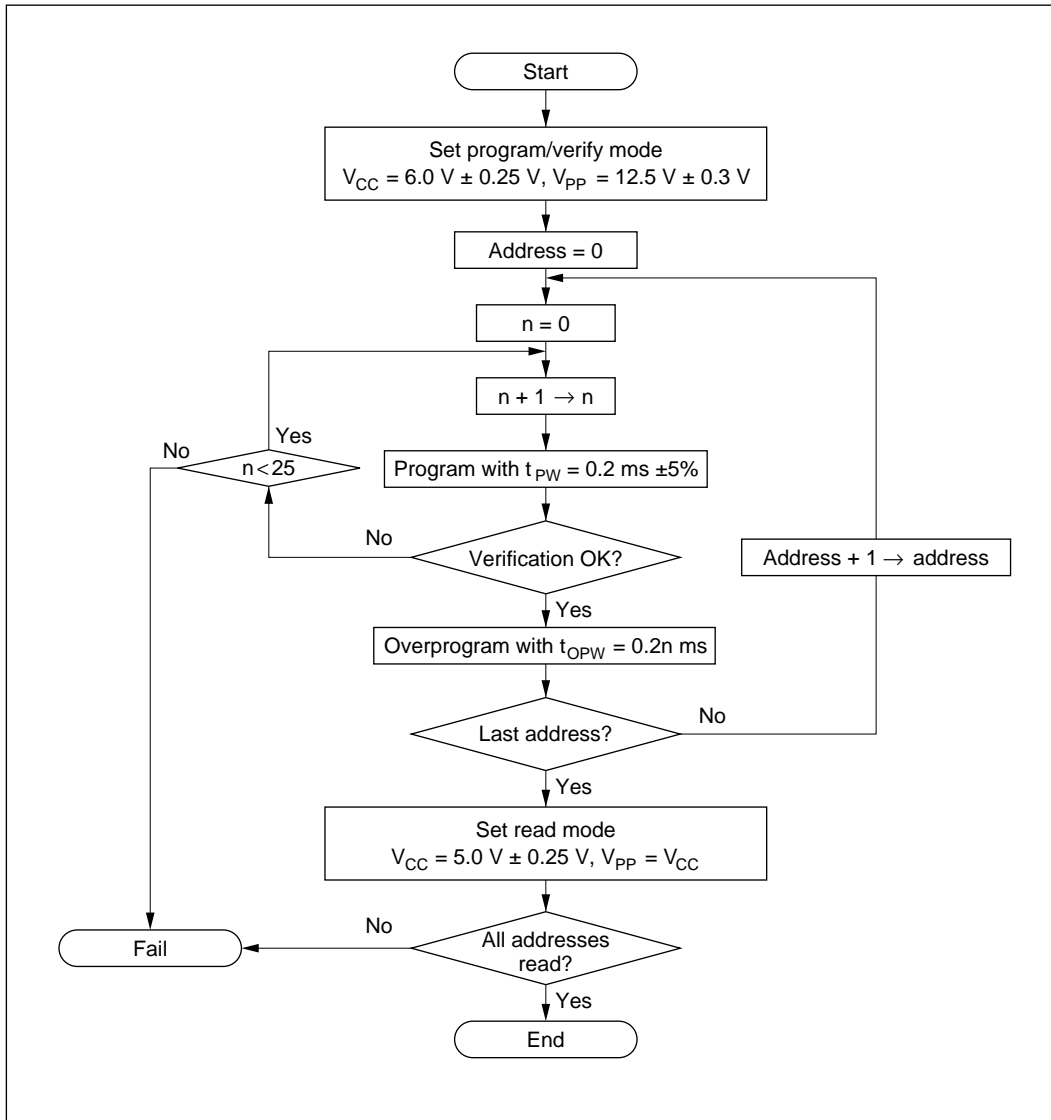

Figure 6-4 High-Speed, High-Reliability Programming Flow Chart
An efficient, high-speed, high-reliability programming procedure can be used to program and verify data. This procedure programs the chip quickly without subjecting it to voltage stress and without sacrificing data reliability. Figure 6-4 shows the basic high-speed, high-reliability programming flow chart.
2. t_{DF} is defined at the point at which the output is floating and the output level cannot be read.3. t_{OPW} is defined by the value given in the programming flow chart in figure 6-4.